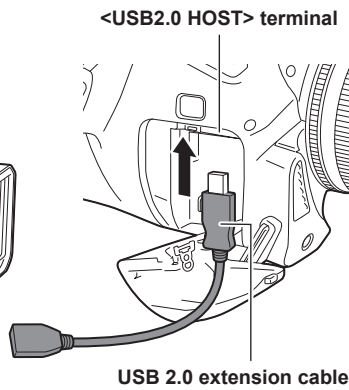

Fig. 2
- 2** Connect the USB 2.0 extension cable (optional: type A male/female, 0.2 m) to the <USB2.0 HOST> terminal. (Fig. 2)